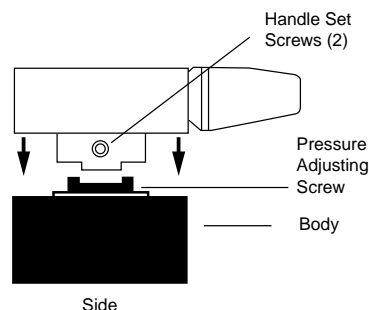

Fig. 12. Valve handle acting as wrench to adjust valve pressure adjusting screw.
Replace the handle and tighten the two set screws on the two flats of the shaft. Confirm that the handle protrusions are out of the slots in the body before tightening the set screws. This step is important. If the handle engages the pressure adjusting screw the shaft will not rotate between LOAD and INJECT. See Figure 12.
- Replace the handle and tighten the two set screws on the two flats of the shaft. Confirm that the handle protrusions are out of the slots in the body before tightening the set screws. This step is important. If the handle engages the pressure adjusting screw the shaft will not rotate between LOAD and INJECT. See Figure 12.